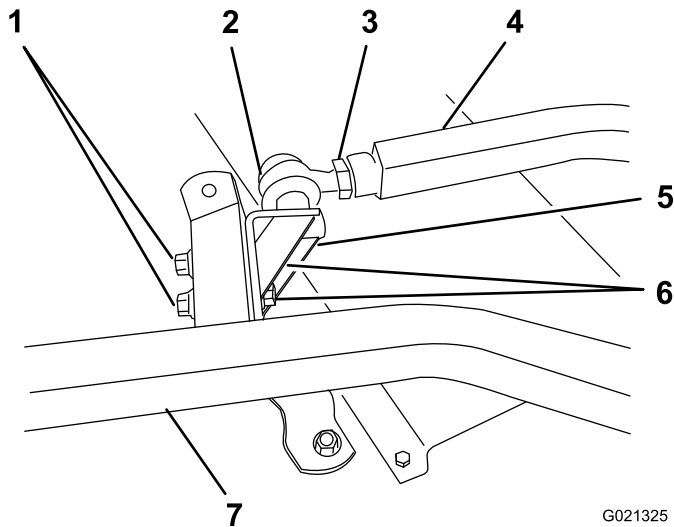

Figure 10
1. Remove the 2 capscrews, flat washers, and flange nuts securing the left-hand ball joint mount to the left-hand castor arm (Figure 10).